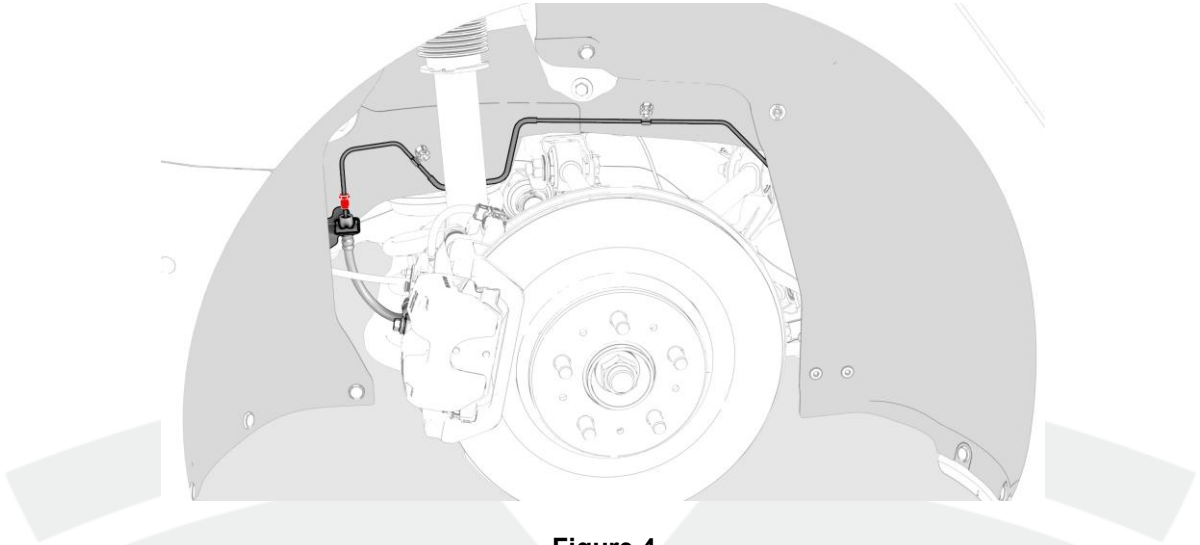

Figure 4
7. Insert the RH to sill brake line into the brake hose at the jounce hose bracket, and then use a crowfoot extension to install the brake line tube nut (12 mm, Torque 16 Nm) into the brake hose (Figure4).